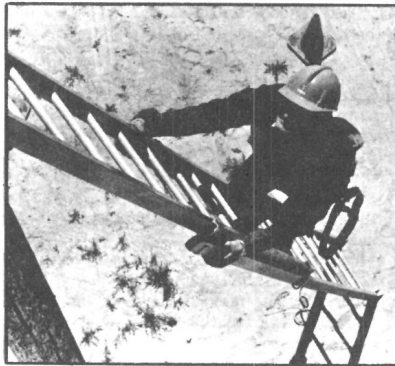

FIGURE 10.
4.11 Do not hurry when going up or down a ladder; take one step at a time and always face the ladder, being sure to have both hands free to hold the sides of the ladder. See Figure 10. Be especially careful when going up or down ladders in wet or icy weather.